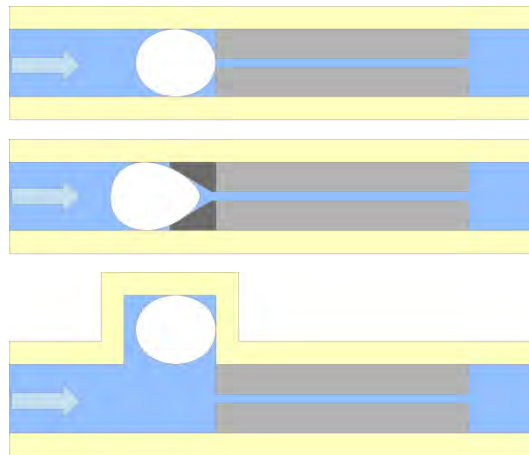

Figure 7 Air bubble and restrictor
- With a restrictor the diameter of the fluidic line changes from wide to small and back to wide again. This can create some difficulties when priming the system, because air bubbles may block the small opening of the restrictor. It is possible to force them through with enough pressure, but this may be far more than the pump can deliver or the fluidic system can endure without leaking. If air bubbles can't be avoided otherwise they can either be pushed aside into an extra air bubble pocket where they can't block or they have to go through the restrictor. If pushed aside they may interfere with pumping as they act as a pressure buffer. If they have to go through the restrictor some special funnel structure may be required. See Figure 7 below for some clarification.